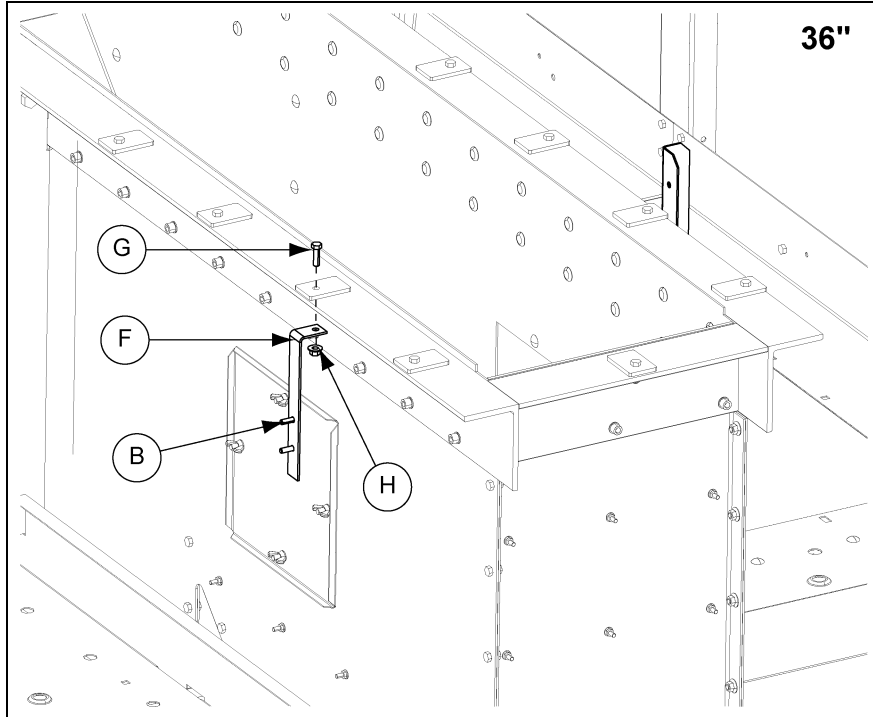

Figure 10G
1. Attach two (2) HP handrail supports (HP1636HS) (F) to lower head using 3/8" x 1-1/4" bolt (S-2071) (G) and nut (S-968) (H). (See Figure 10G.)